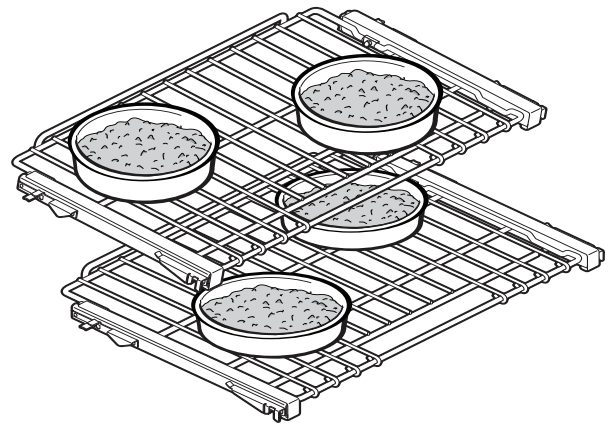

Figure 29: Pan Placement
- Racks #2 and #4 are most appropriate when using the convection bake mode. Cookie sheets should not be staggered but the cookie sheet on rack #2 should be placed directly under the one on rack #4 or #5. Stagger round cake pans (see *Figure 29*).
- Cookie sheets with only two sides give the best results. Aluminum commercial half-sheets or professional cooking utensils may be used (see *Figure 29*).